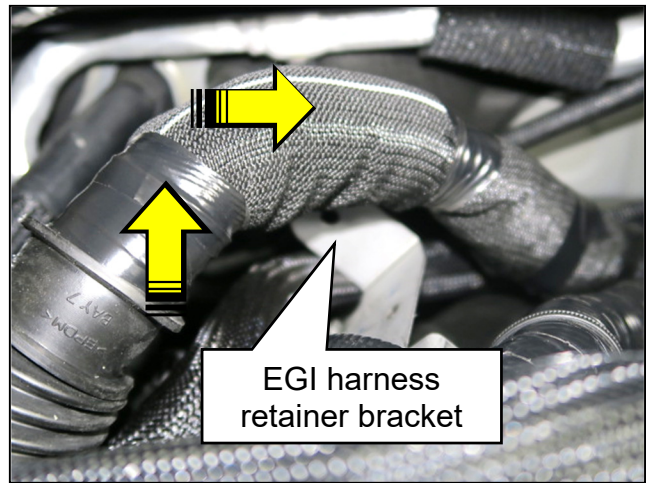

Figure 9
7. Lift the harness over the harness retainer bracket, as shown in Figure 9, and move the harness toward the front of the vehicle.